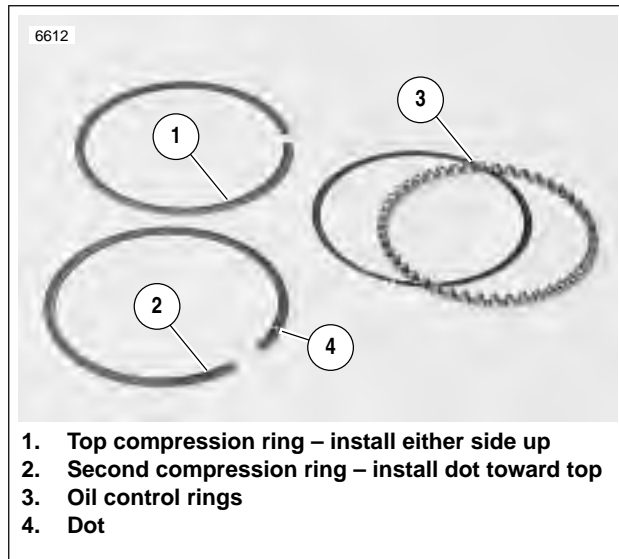

Figure 3-75. Piston Rings
See Figure 3-75. Piston rings are of two types: compression and oil control (3). The top (1) and second (2) compression rings are positioned in the top and second upper piston ring grooves. The dot (4) on the second compression ring must face upward. Ring sets are available to fit standard and oversize pistons.